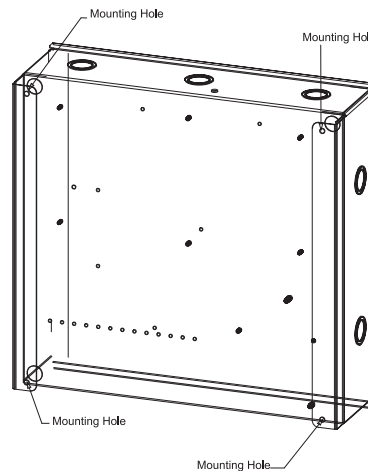

Figure 5 Sequencer - Rear View
Mount the sequencer to the wall with four (4) mounting screws (not supplied) through the mounting holes in the base as shown below in Figure 5.